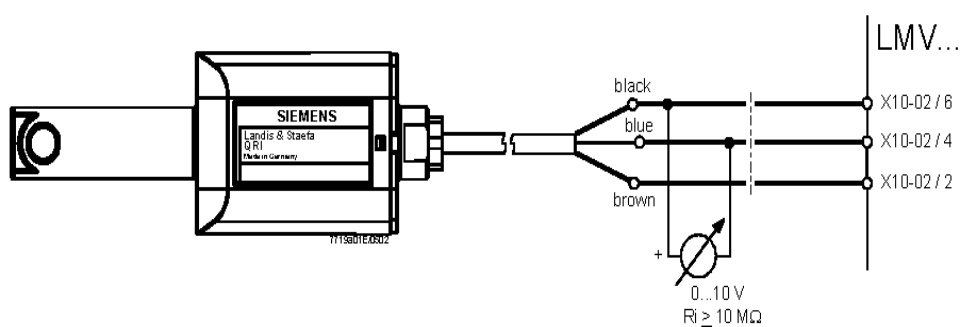

Fig. 1 - Detection with detector QRI...
- Change the filter if the pressure difference between pressure connection 1 and 3 (Fig. 1-Fig. 3) is $\Delta p > 10$ mbar.
- Change the filter if the pressure difference between pressure connection 1 and 3 (Fig. 1-Fig. 3) is twice as high compared to the last check.